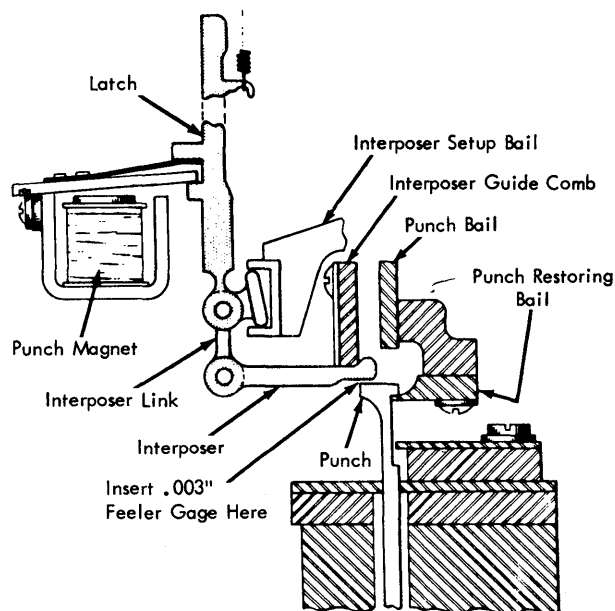

Figure 4-32. Interposer Guide Comb Clearance Adjustment
- a. With the punch magnet de-energized, insert a .003" feeler gage between the punch and the interposer (Figure 4-32).